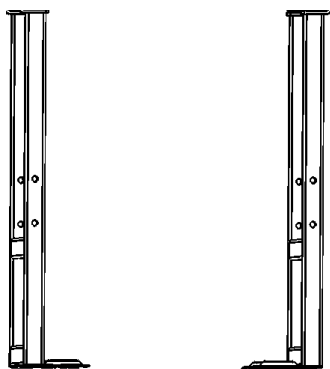

Figure 3
1. Lay each table leg, as shown in Figure 3, on a flat surface.